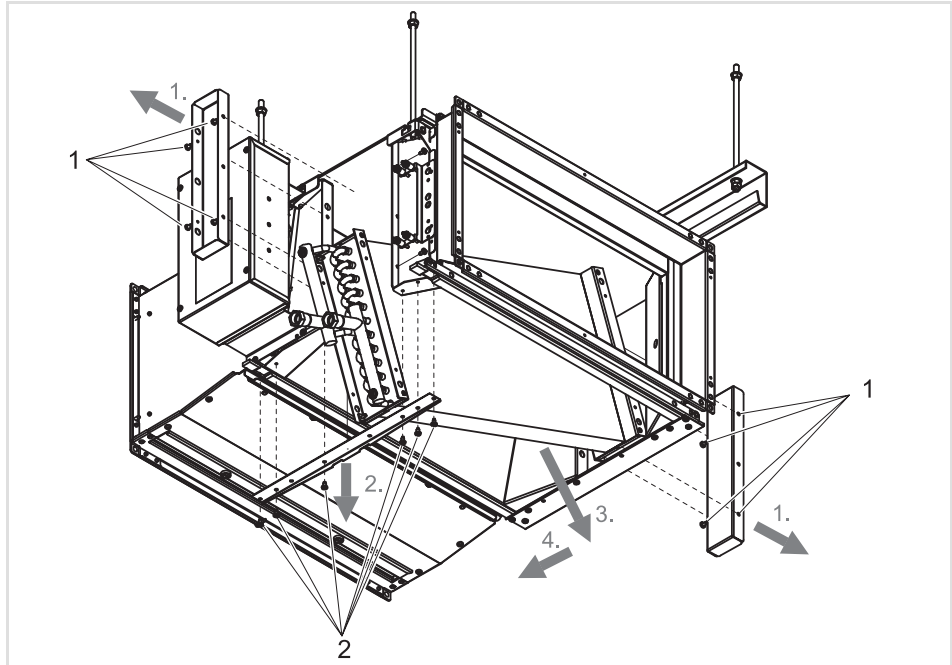

Fig. 8-8: Dismounting heat exchanger
- Dismount the heat exchanger. To do so, unscrew the 6 screws on both sides of the unit (refer to Fig. 8-8, Pos.1) and below the unit on one side of the rail (refer to Fig. 8-8, Pos. 2) and carefully remove the heat exchanger in the downwards direction.